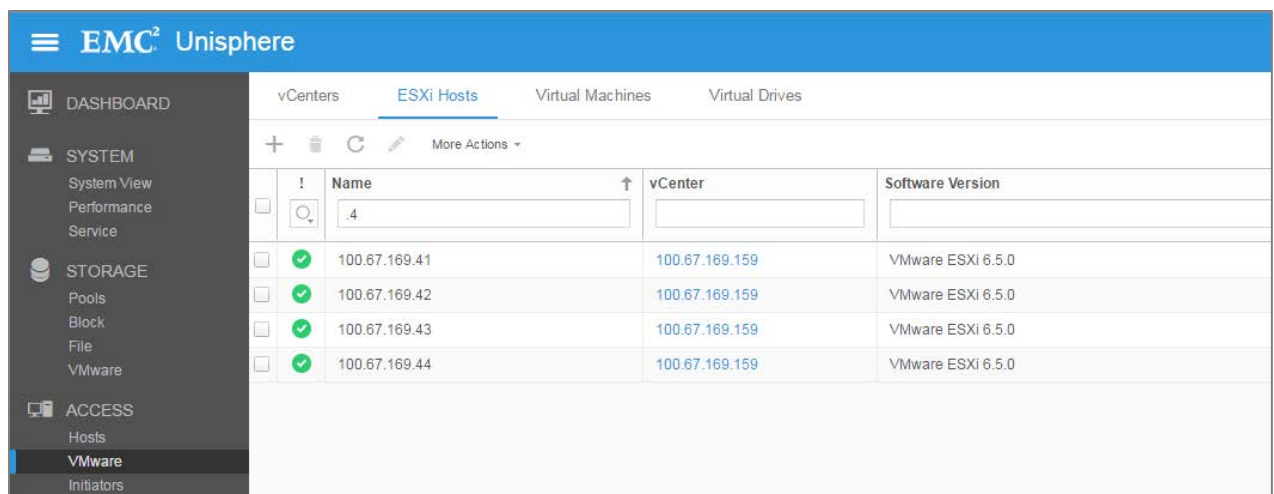

Figure 28 ESXi Hosts
9. The list of added ESXi hosts should be displayed under the ESXi Hosts tab, as shown in Figure 28.